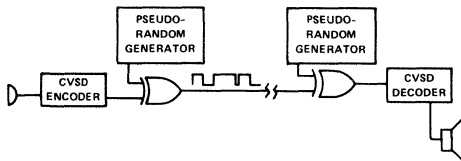
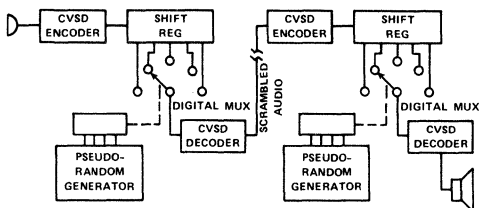

Figure 4a – Digital Transmission Encryption
Figure 4b – Voice Transmission Scrambling
- 2) **Secure Communications:** Digital data can be quite securely encrypted using fairly simple standard hardware (Figure 4a). Scrambled speech for audio channels may also be accomplished by encoding into a shift register, then selecting different segments of the shifted data in pseudo-random fashion and decoding it (Figure 4b).